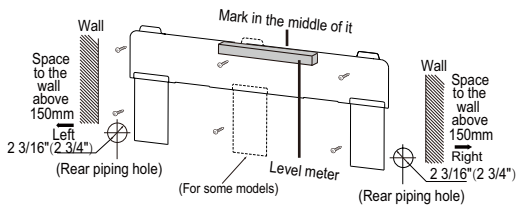

Fig.1
- (1) Choose the position of piping hole according to the direction of outlet pipe. The position of piping hole should be a little lower than the wall-mounted frame.(As show in Fig.1)